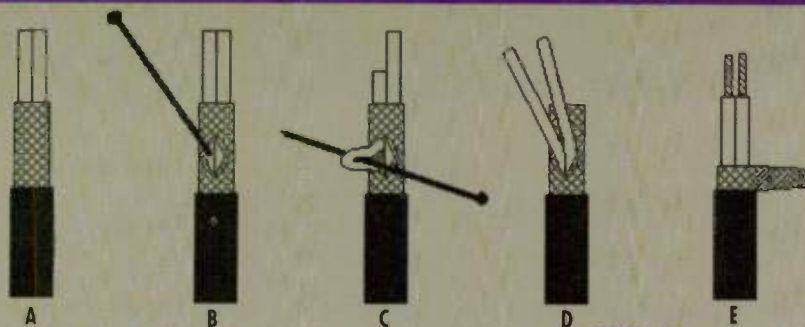

FIGURE 3
Figure 3 shows one way to prepare braided cable. As with spiral wrap, (A) shows the outer insulation stripped off to expose the shield and the two inner conductors. (B) shows using a pin to separate the braid. Poke the pin in between a space in the mesh, and gently push the mesh apart to create a small opening. Once you've created an opening, again use the pin (or a very small pliers) to pull the inner conductors out and through the opening, as shown in (C). (D) shows both leads pulled through the shield. Now twist the shield together and tin the end, following the same cautions mentioned above for spiral wrap. (E) shows the final result—a tinned shield and the two inner conductors with about 1/8-inch of insulation stripped off the ends. As with the spiral wrap example, you may want the leads to be somewhat shorter than shown.